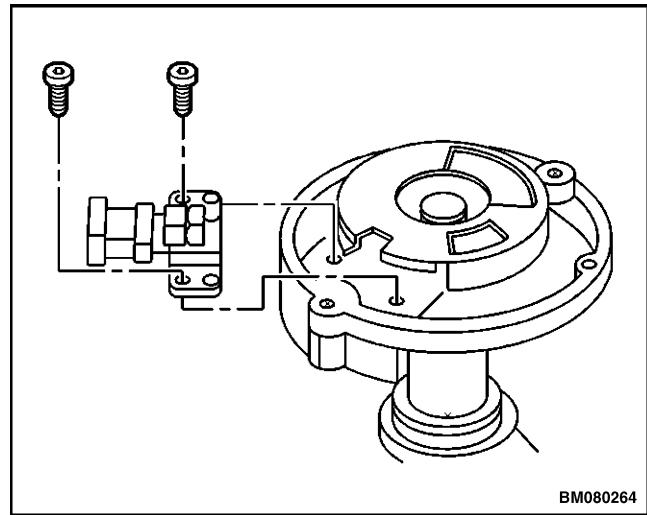

Figure 33. Camshaft Position Sensor Remove/Install
7. Remove the CMP retaining screws. Remove the CMP. See Figure 33.
1. Insert the CMP sensor through the reluctor wheel slot. See Figure 33.
2. Install new CMP mounting screws and tighten to 2.2 N•m (19 lbf in). See Figure 33.